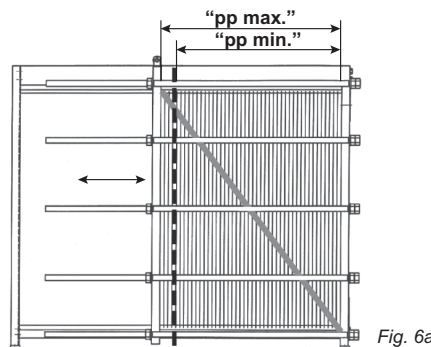

Fig. 6a
- 3) Marcare le piastre con strisce diagonali colorate (vedi *fig. 6a*).
- 3) Paint a diagonal coloured line across the side of the plate pack (see *fig. 6a*).